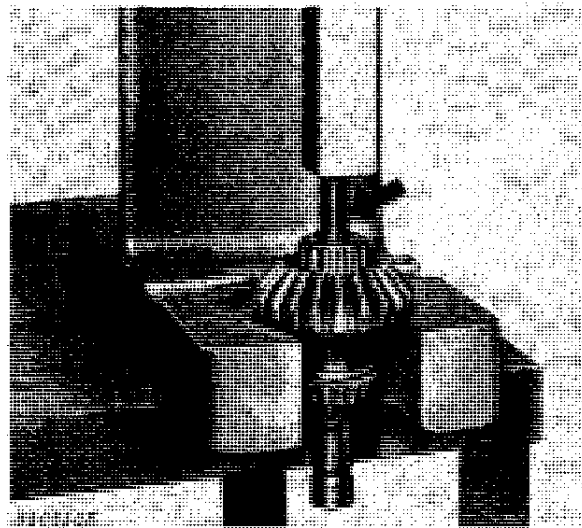

Fig. 23-Removing Gear and Bearing
3. Press the shaft out of the gear and inner bearing with a driver having a diameter no larger than 1-1/8-inch (29 mm) (Fig. 23).